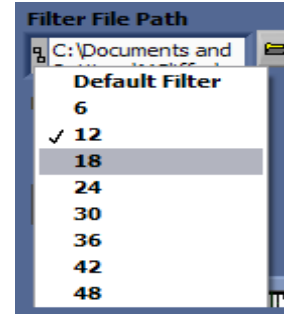

Figure 12.Number of coefficients to be sent to the AD7763device.
- a) Select the number of coefficients that will be downloaded – this is half the filter length – so if you have a 24 tap filter you select 12 in the drop down selection shown in Figure 12.